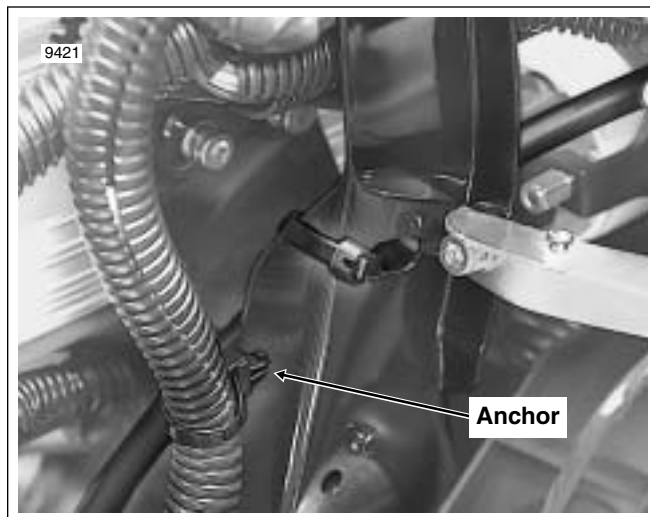

Figure 8-174. Anchor Convoluted Tubing of Headlamp Connector
4. Remove anchor on convoluted tubing of headlamp connector from hole in left fairing bracket. See Figure 8-174.
12. Install anchor on convoluted tubing of headlamp connector into hole in left fairing bracket. See Figure 8-174.